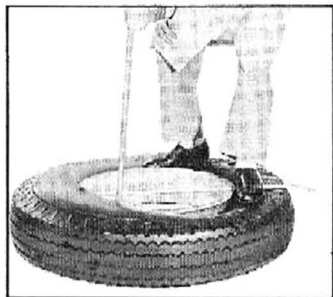

Fig. 62—Lifting Bead Over Rim
2. Hold one iron in position with foot and pull second iron toward center of rim. Progressively work bead off rim, taking additional bites if necessary (fig. 62).